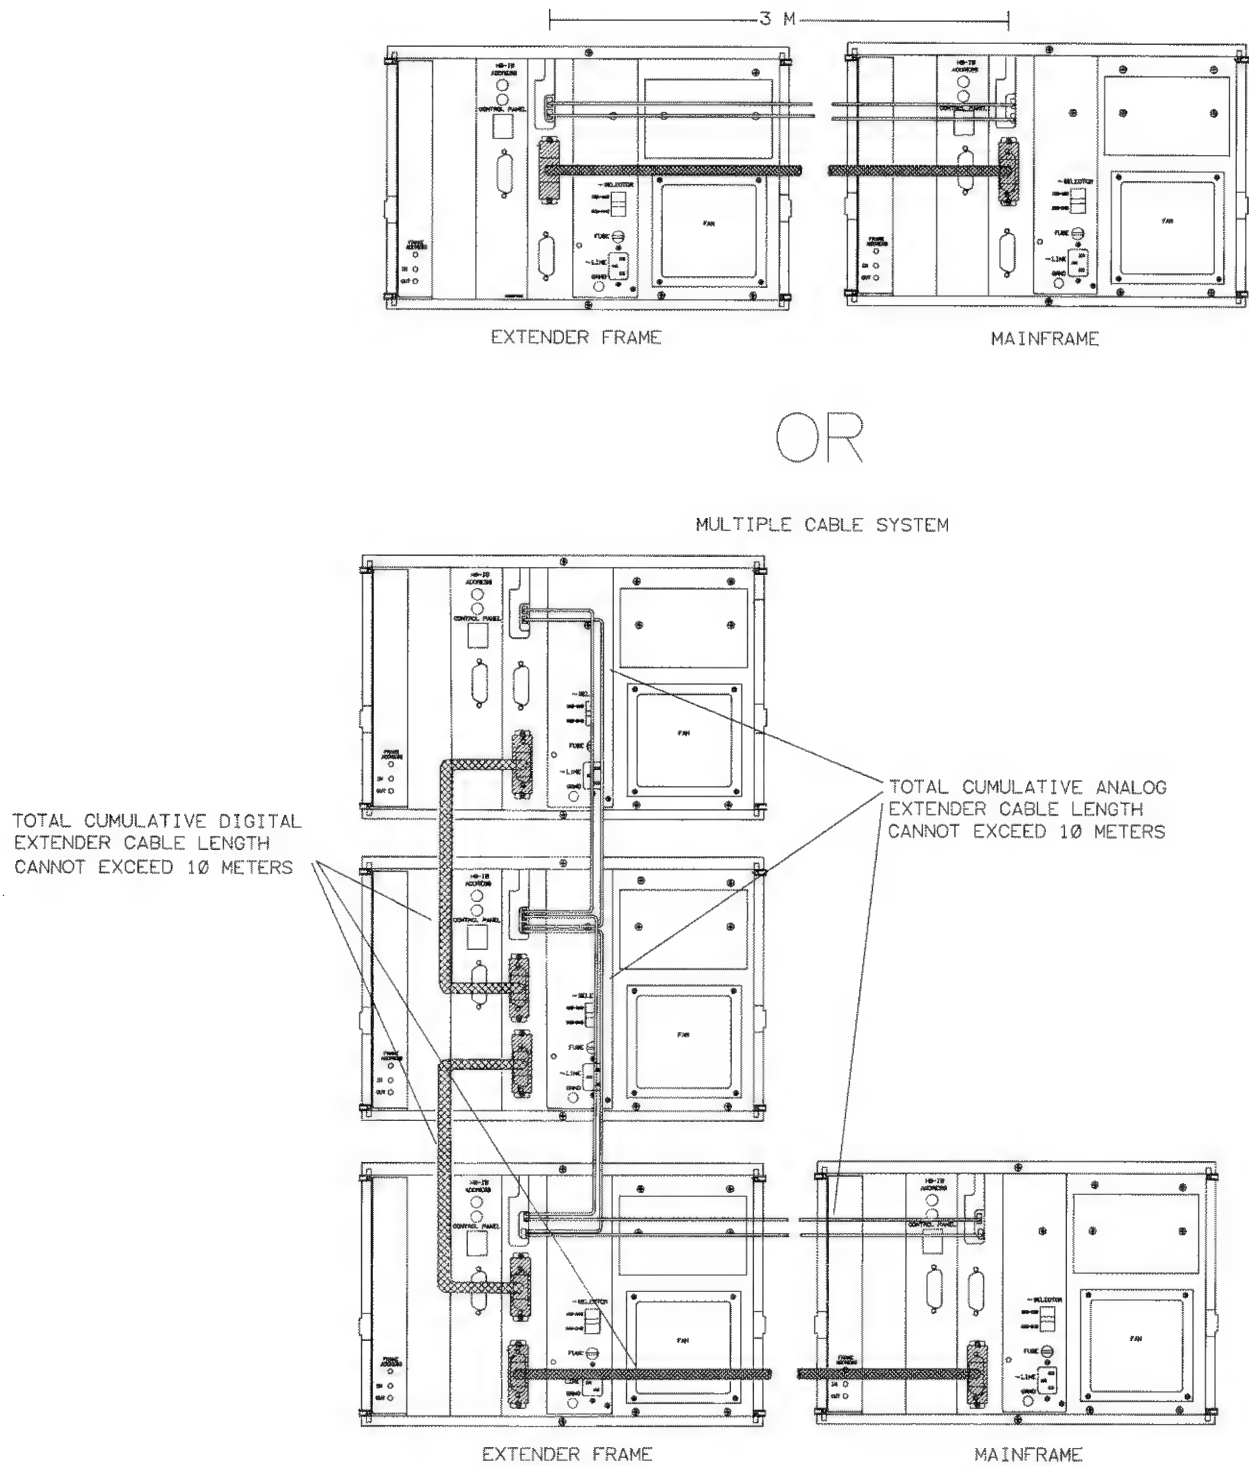

Figure 12. Cable Length Restrictions.
There are cable length restrictions between the mainframe and all extenders in the system. Analog signals flow through the analog extender cables and digital control signals flow through the digital extender cables. To ensure the integrity of the signals passed between mainframe and extenders, cumulative cable length within a system must not exceed 10 metres for either analog or digital extender cables (i.e. each can have cumulative 10 metres). Therefore, this limits the distance an extender can be placed from the mainframe. Up to seven extenders can be added to a mainframe as long as the cumulative length of digital extender cables does not exceed 10 metres. Also, the cumulative length of analog extender cables must not exceed 10 metres. Figure 12 illustrates the cable length restrictions on a mainframe/extender system.
Analog extender cables connect the analog buses of two HP 3235 frames together via Extender Modules. All frames in a system can have the buses tied together to make one common bus. If no extenders are in the system, external connections to the mainframe analog bus are made through the Bus Access Module. Installing the analog extender cable is optional. The cable needs to be installed only if analog bus connections between two modules in different frames are to be made. The alternative is to not use the analog bus and connect the points through the terminal blocks to a module that has analog bus connections. The maximum cumulative length allowed is 10 metres (see Figure 12).
The digital extender cable is the communication link between mainframe and extender. Two connectors on the extender module are present for installing the digital extender cable. The connectors are bi-directional and the cable can be attached to either connector. The maximum cumulative length for the digital extender cable is 10 metres (see Figure 12). A digital extender cable is supplied in a standard length of 1 metre. Option 570 replaces the 1 metre cable with a 3 metre cable. The steps required to install a digital extender cable follow.
- b. Install the digital extender cable to either connector beneath the **EXTENDER** label. One end to the mainframe and one end to the extender frame. If more than one extender is in the system, connect the second cable from the first extender to the second extender, etc. See Figure 12.